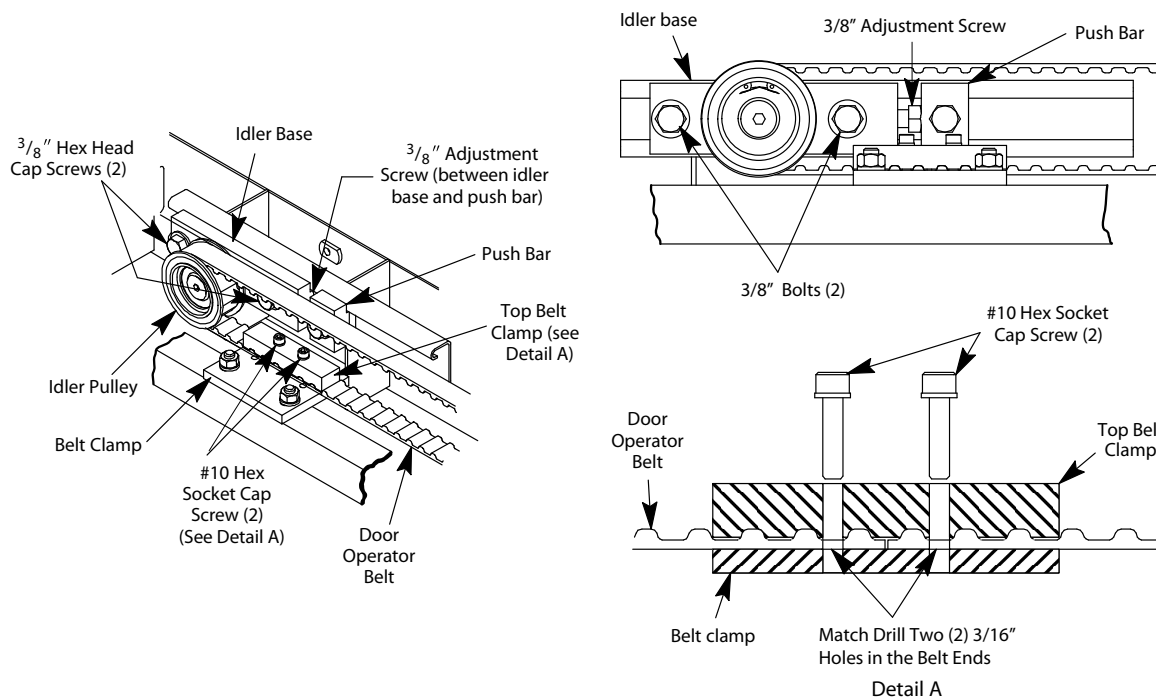

Figure 5 - Change Single Speed Door Operator Belt
1. Turn the 3/8" adjustment screw (located between the idler base and the push bar) clockwise into the idler base to loosen it. See Figure 5 for all steps in this procedure.